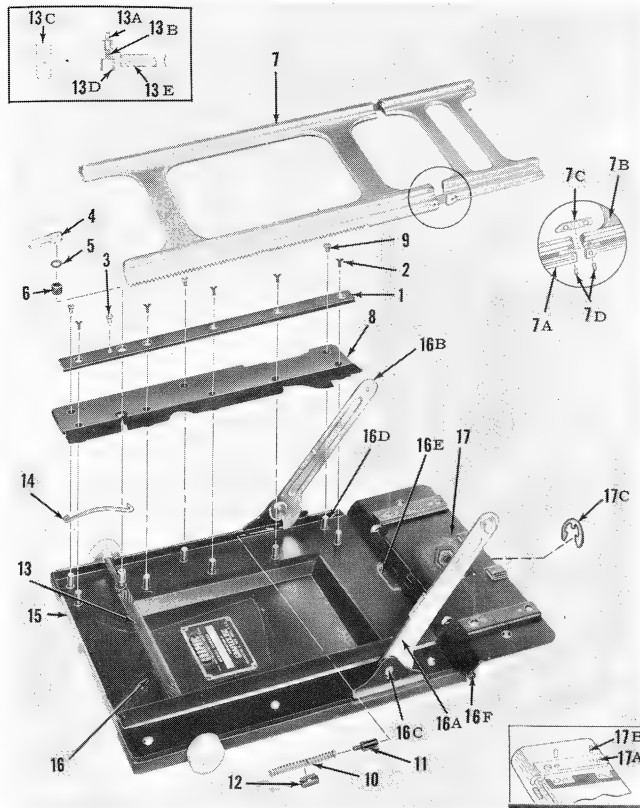
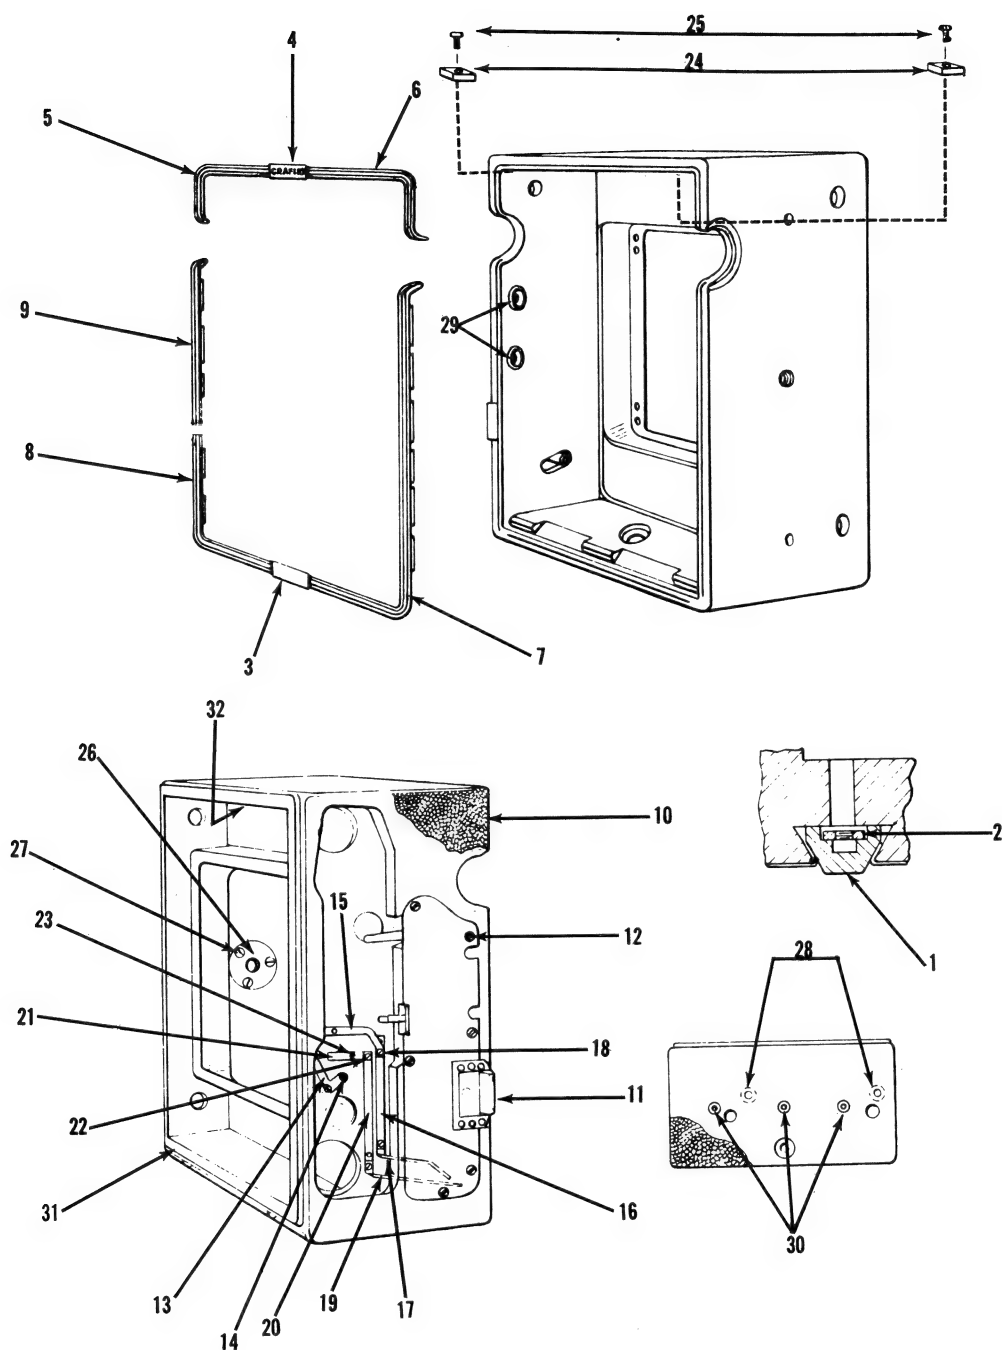

Figure 20. Bed Complete
Figure 21. BODY COMPLETE
Key to Figure 20.
c) From the bed hinge, remove two wood screws (38). Remove four yoke guide case screws (39) that are screwed into machine nuts (2, figure 21) located in the case feet (1).
- b) Remove the bed section guide (1, figure 20) by removing machine screws (2).
- c) Rack the yoke assembly (7) forward until the rear case yoke section is free of the hinge guides. Lift the yoke assembly (7) from the bed.
- d) Remove block screws (9, figure 20) from the bed block (8). When the bed block is lifted from its position care should be taken so that the bed brace spring (10) does not throw and lose the bed brace plunger (11).
- e) Swing the yoke lock lever (4, figure 20) clockwise so that the special fillister head screw (3) can be removed. Unscrew the yoke lock lever (4). Remove the flat washer (5) and the yoke lock sleeve (6).
- g) Lift the pinion assembly (13) from the bed. Do not lose the focusing pinion springs (14) at each side.
a) The case section guide (17A, figure 20) should have the sliding grooves wiped with a film of the above lubricant.
b) Assemble the case section guide (17A) to the hinge assembly (17) by using two dowel pins (17B) in each guide.
Pinion assembly (13, figure 20) should be lubricated by wiping the small diameter of the shaft at each end with a resonable amount being applied to the helical gear teeth.
The yoke assembly (7, figure 20) should have its guide edges wiped with lubricant and a reasonable amount applied to the gear teeth. Roll the yoke assembly (7) over the pinion assembly (13) to distribute the lubricant evenly and wipe off all excess.
a) To assemble the bed block (8, figure 20) insert the stud of bed brace plunger (11) into the bed brace spring into space provided on the under side of the bed block and hold in position by use of the spring retaining clip (12) that clips around the spring and over the rib on the bottom of the block. Check the position of the focusing pinion spring (14) so that it will fit in the block cavity that is provided. Lower the block into position over the guide and block screw bushings (16D). Be sure that the edge of the leather is tucked in between the block and the bed. Assemble three bed block screws (9).
a) Assemble the right bed section guide (1, figure 20) and attach with five machine screws (2).
b) Insert the yoke lock sleeve (6) and assemble the flat washer (5), if required. This flat washer is a spacer washer that may or may not be needed, depending on the position of the yoke lock lever when it is assembled.
c) Assemble the yoke lock lever (4) and tighten. Note the position and if the lever does not tighten in convenient position it should be removed and the thread started in a different position; it has a triple
d) After the yoke lock lever position has been found to be satisfactory, assemble the special fillister head screw (3).
b) Position the left bed section guide and assemble five machine screws (2, figure 20).
c) With the bed section guide screw (2) loosened on both sides, slide the yoke back so that the case section will partially engage in the case section guide (17A). This will center the front section in relation to the case section. Draw both bed section guides (1) together evenly with the fingers and tighten the guide screws (2) on both sides.
a) Place the bed in position in the camera case and reassemble four yoke guide case screws (39, figure 3) that are screwed into the machine nut (2, figure 21) located in the foot (1). Assemble two wood screws (38, figure 3).
b) Engage each bed brace (16A and 16B, figure 20) with its proper bed brace plate (34 and 35, figure 3). Allow the bed brace arm to slide freely in the slot and assemble the mounting screw in the old mounting hole.
c) Next check the top surface of the yoke assembly (7, figure 20). If the top surfaces of the yoke guide are not level, the front standard will not slide smoothly on the yoke. If necessary, shim the case section guide as follows:
1. Remove the release slide plate (11, figure 21).
2. Remove the right focusing knob escutcheon (51, figure 3) that is held by escutcheon pin (52). Pry up the right moulding (9, figure 21) and the right edge of the lower right moulding (8).
6. Remove six wood screws (12, figure 21) that secure the body release plate assembly (11), and remove the plate assembly.
2. Inspect the short and long switch contacts (17 and 19, figure 21). These contacts complete the focal plane synchronization circuit and are closed by pressure action of the long lever inside the plate that has the insulated spring terminal bushing. If this insulated bushing has become worn so that the lever might make contact with the short switch contact (17) the body release plate assembly (11) must be replaced.
1. Position the body release plate assembly (11, figure 21) and assemble six wood screws (12).
1. To remove the side tripod socket (26, figure 21) it is first necessary to remove the right bed brace plate (35, figure 3) as described in paragraph V.B.2. Remove the three flat head wood screws (27 figure 21) securing the tripod socket.
Key to figure 21.